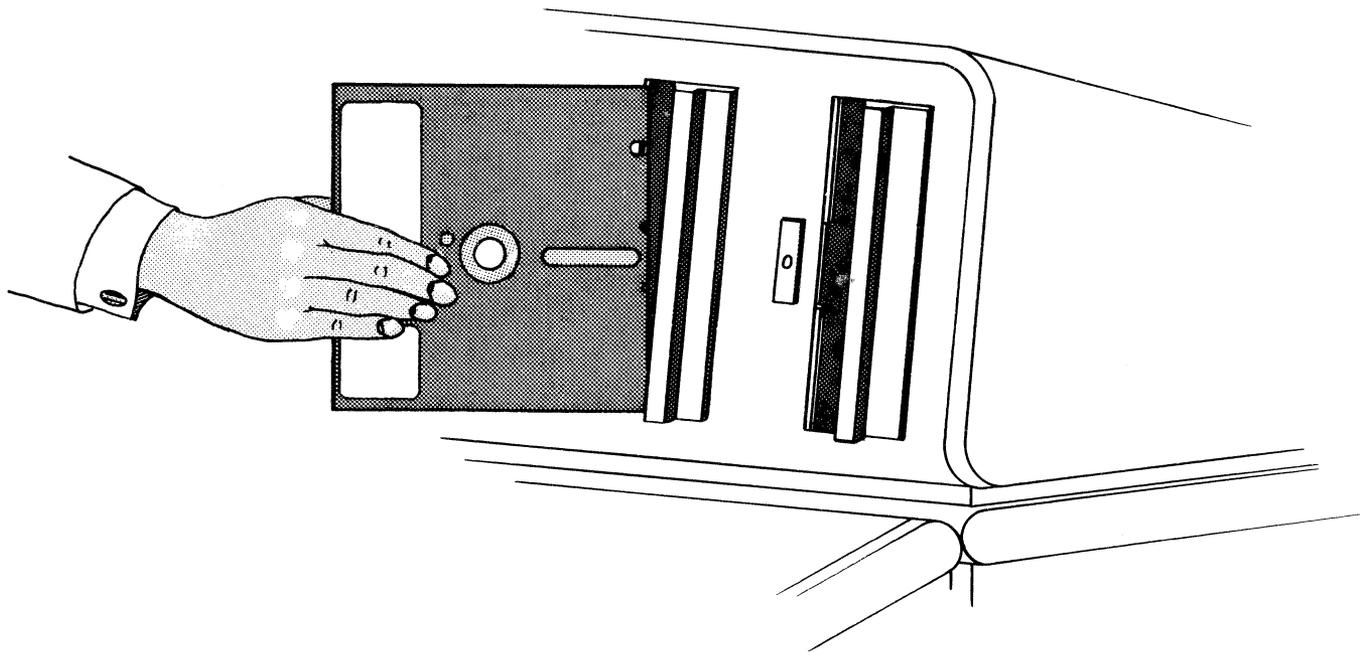

FIG 2/4
- 2.10.1 If the Disk Drive's loading slot is closed, press the illuminated indicator's back plate. The loading slot's cover should now spring open. (see Fig. 2/2b or c)
2.10.2 Hold the Diskette as shown in Fig. 2/4.